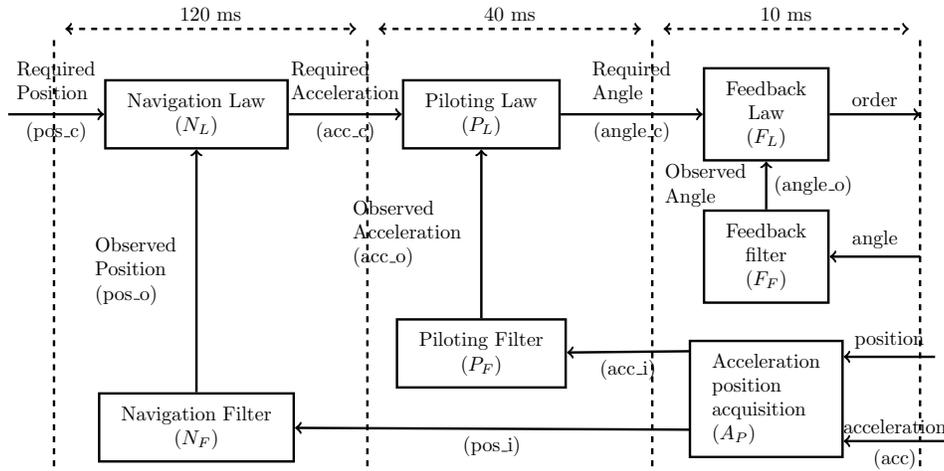

Figure 2: Flight control system
Exercise 3 (Simplified flight control) We consider the simplified Flight Control System of Fig. 2. This system controls the attitude, the trajectory and the speed of an airplane. It consists of 7 tasks which execute repeatedly at a periodic rate. The fastest sub-system executes at 10 ms, it acquires the state of the system (angles, position, acceleration) and computes the feedback law of the system. The order is then sent to the flight control surfaces. The intermediate sub-system is the piloting loop, it executes at 40 ms and determines the angle to apply. The slowest sub-system is the navigation loop, it executes at 120 ms and determines the acceleration to apply. The required position of the airplane is acquired at the slow rate.
- Edit the file `fcs.plu` to implement the flight control system as shown in Figure 2. Use the task parameters shown in Table 1; assume that the WCET of all sensors and actuators is 1 ms. Assume moreover that the actuator `order` has a deadline of 7 ms. In this first step, use direct communication between the nodes, i.e., do not use `fby`.